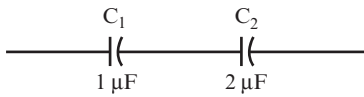

FIGURE 1.19
42 Capacitors can be placed in series, as shown in Figure 1.19.
- B.** In Figure 1.19, what is the total capacitance? _____